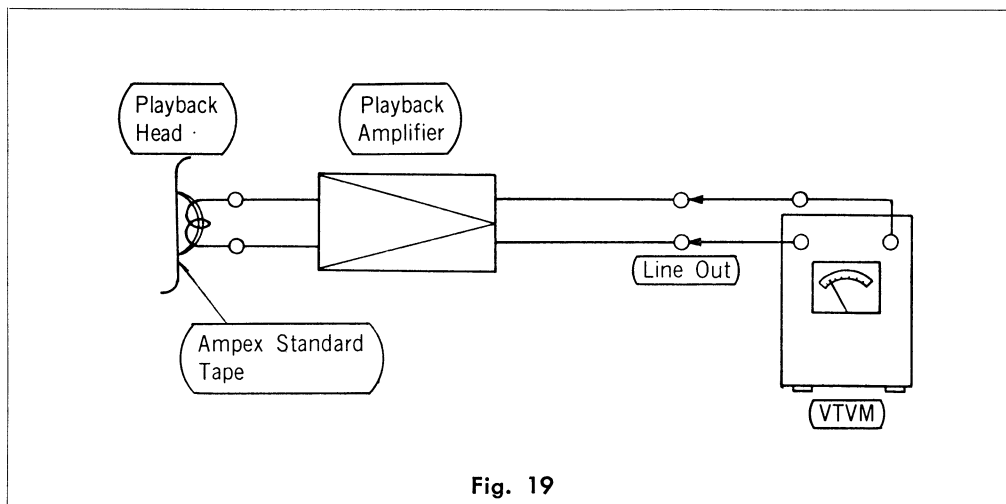

Fig. 19
1. Make connections shown in Fig. 19.